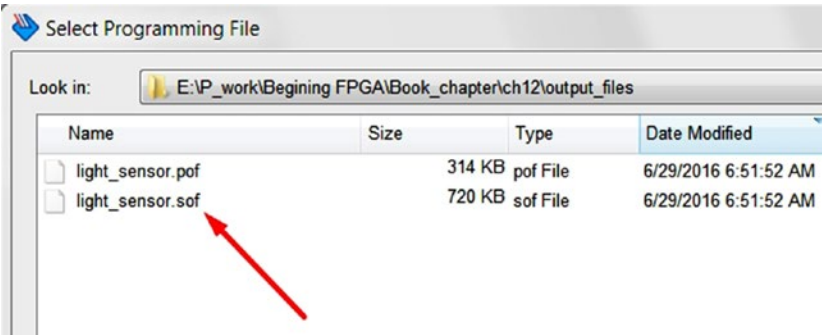

Figure 12-46. Select file `light_sensor.sof`
Step 2: You can point to the newly created configuration file by clicking the **Add File** button and selecting the `light_sensor.sof` file under the **output_files** directory (Figure 12-46).